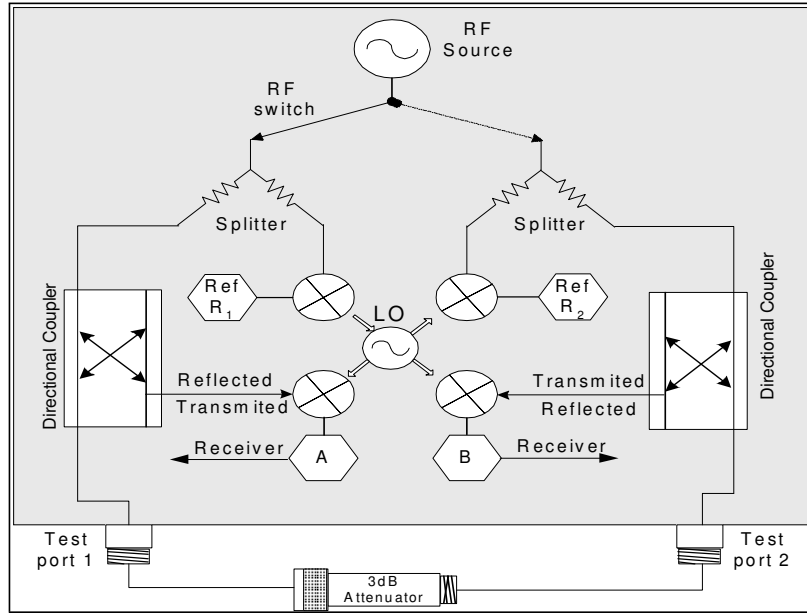

Figure 3 - The major elements of a Network Analyzer.
1. Refer to Figure 3 and describe the signal flow when measuring the SWR and the attenuation of the attenuator.
2. Define the following parameters: Reflection Coefficient, S-parameters, Return Loss (RL) and SWR.
A network analyzer measurement system can be set of four major parts: a signal source providing the incident signal, signal separation devices to separate the incident, reflected and transmitted signals, a receiver to convert the microwave signals to a lower Intermediate Frequency (IF) signals, a signal processor and a display section to process the IF signals and display detected information, as shown in Figure 3.
A directional coupler is a device that consists of two coupled transmission lines that are configured to couple energy to an auxiliary port if it goes through the main port in one direction and not in the opposite direction. Directional couplers usually have relatively low loss in the mainline path and thus present little loss to the incident power. In a directional coupler structure (see Figure 3) the coupled arm samples a signal traveling in one direction only. The coupled signal is at a reduced level and the relative amount of reduced level is called the coupling factor. For instance a -20dB directional coupler means that the coupled port power level is 20 dB below the input, which is equivalent to 1% of the incident power. The remaining 99% travel through the main arm. The other key characteristic of a directional coupler is directivity. Directivity is defined as the difference between a signal detected in the forward direction and a signal detected in the reverse direction (isolation between the forward and reverse signals). A typical directional coupler will work over several octaves with 30 dB directivity.
The two-resistor power splitter (see Figure 3) is used to sample either the incident signal or the transmitted signal. The input signal is split equally between the two arms, with the output signal (power) from each arm being 6dB below the input (power). A primary application of the power splitter is for producing a measurement with a very good source match. If one side of the splitter output is taken to a reference detector and the other side goes through a DUT to a transmission detector, a ratio display of transmitted to incident has the effect of making the resistor in the power splitter determine the equivalent source match of the measurement. Power splitters are very broadband, have excellent frequency response and present a good match at the DUT input. Separation of the incident and reflected signals can be accomplished using either a dual directional coupler or a splitter.